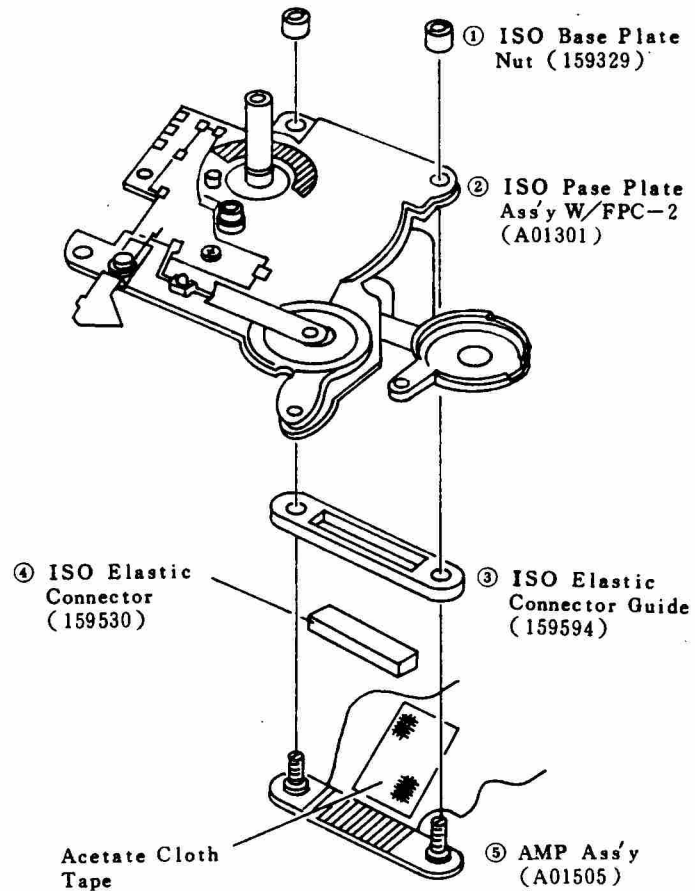

Fig 54
n) Remove the respective parts ① ~ ⑤ shown in (Fig 54) in numerical order.